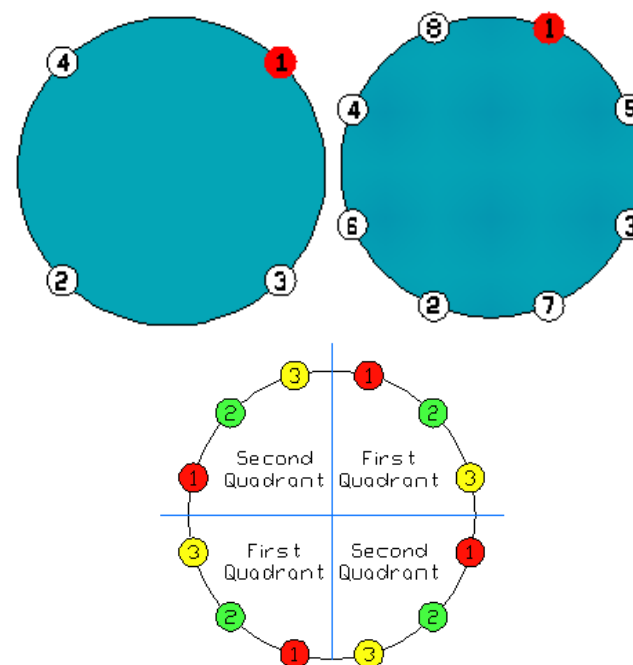

Figure F2 – Bolt Tightening Sequence 4, 8 and 12 Bolts or More
7. Make a sufficient number of circuits to be sure that the bolt torques are achieved as shown in Figure F2 and Table F1.
8. Acceptable tightening sequences are shown in Figure F2.